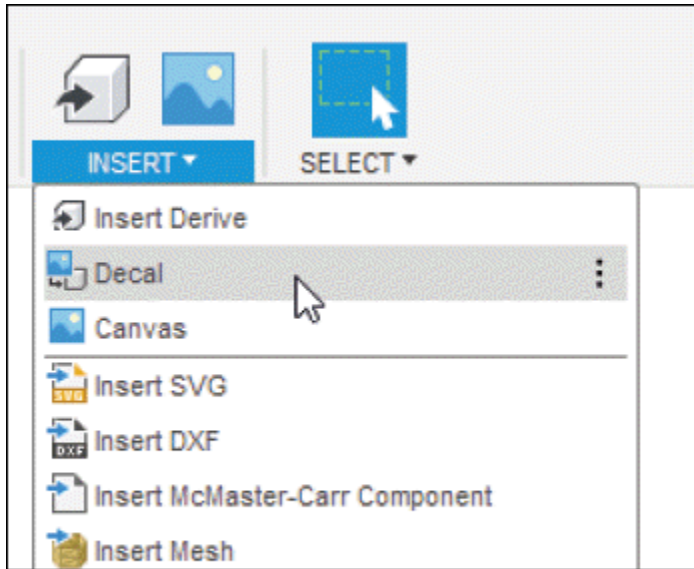
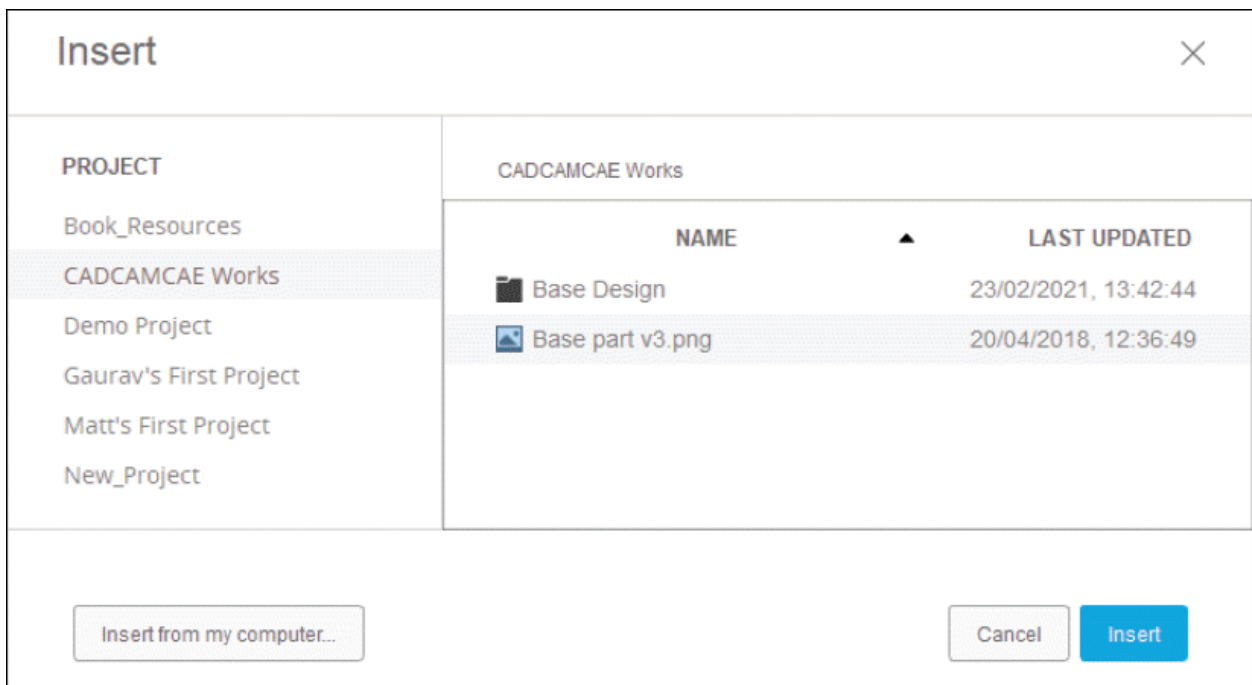

Figure-5. Decal tool
Figure-6. Insert dialog box
- Click on the **Decal** tool of **INSERT** drop-down from **Toolbar**; refer to Figure-5. The **Insert** dialog box will be displayed; refer to Figure-6.